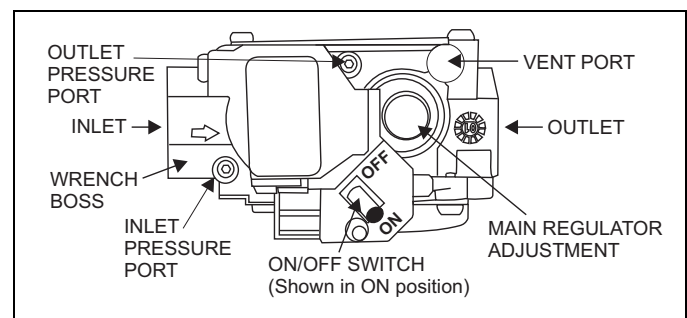

FIGURE 3: Single Stage Gas Valve
5. Move gas control switch to the "OFF" position. Do not force. See Figure 3.
6. Wait five (5) minutes to clear out any gas. If you then smell gas, **STOP!** Follow "B" in the safety information above. If you don't smell gas, go to next step.
7. Move gas control switch to the "ON" position. Do not force. See Figure 3.
11. After three (3) trials for ignition, if the appliance will not operate follow the instructions, "TO TURN OFF THE APPLIANCE" and call your service technician or gas supplier.
4. Move gas control switch to the "OFF" position. See Figure 3.
2. Check that the manual gas shut-off valve in the gas piping supply is turned to the ON position. Refer to Figure 3.
3. Check that the ON/OFF switch on the gas valve is turned to the ON position. Refer to Figure 3.